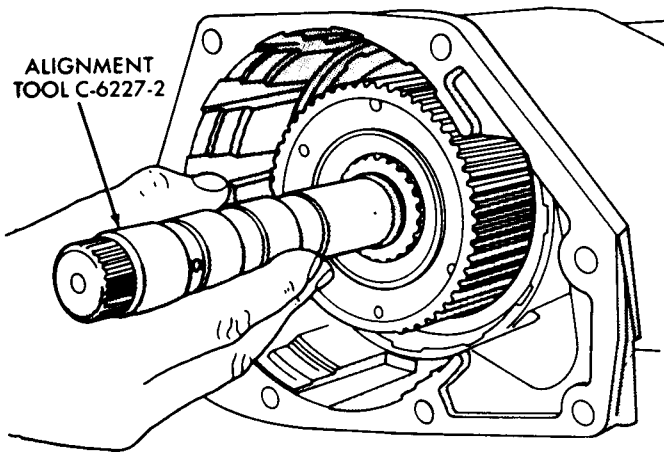
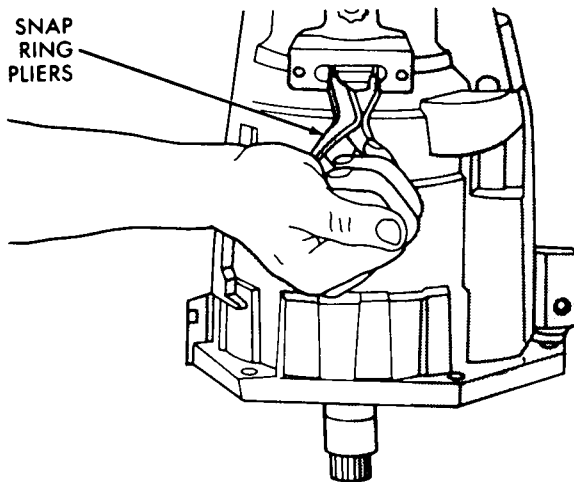

Fig. 8—Alignment Tool
Fig. 9—Expand Snap Ring
(6) Because the entire case must be inverted to remove the gear train, insert alignment Tool C-6277-2 into sun gear. After seating it (Fig. 8), invert case on alignment tool (Fig. 9). Use expanding snap ring pliers to expand output shaft front bearing snap ring and carefully lift case off gear train.